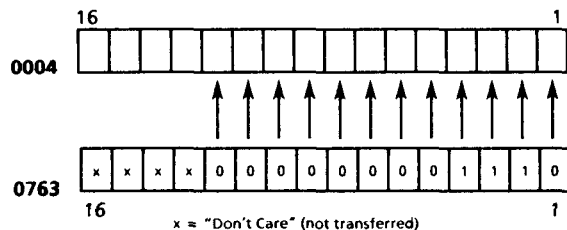

Figure 11.8 Transfer Of 12-Bit Output Width
0763 (D13)	Step #1 Output States bits 1 through 16. Since bits 2, 3 and 4 of register 0004 is set to "1", preset to 14 (decimal value). For the corresponding binary pattern see Figure 11.8.
2. (Also see "2A" below). Output information in registers 0763 through 0766 is transferred to the output registers specified by 0755 (D5) and 0756 (D6). Since D5 = 4 and D6 = 12, bits 1 through 12 of register 0763 are transferred to bits 1 through 12 of register 0004. Since register 0763 = 14, bits 2 through 4 of this register are set to "1" while bit 1 and bits 5 through 12 are set to "0" as shown in Figure 11.8 below: